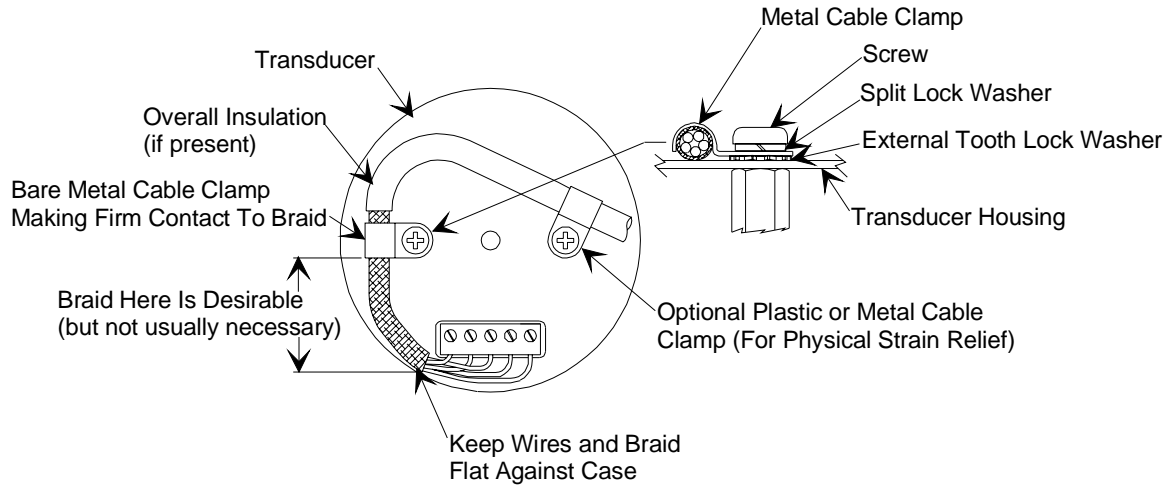

Figure 3: Preferred Method for Shielding Cables with Flying Leads
4. For shielded cables with flying leads at one or both ends; it is important at each such end, to ground the shield *before* the wires exit. Make this ground with absolute minimum length. Refer to Figures 3 and 4, page 24. (A ¼ inch piece of #22 wire may be intolerably long since it has about 5 nH of inductance, worth 31 ohms at 1000 MHz). After picking up the braid's ground, try to keep wires and braid flat against the case. With very few exceptions, grounded metal covers are not required over terminal strips. If one is required, it will be stated in the Declaration of Conformity or in this instruction manual.